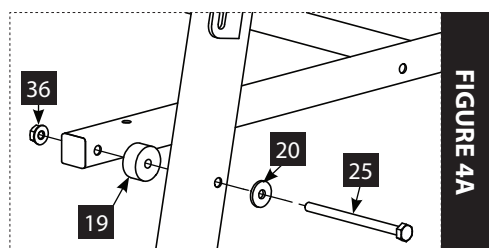

FIGURE 4A
4. Next assemble the seat support (13) to the armrests (10 & 11) as shown in **FIGURE 4**. The order of the hardware: 1/4 -20 X 3-3/4 IN bolts (25), yellow plastic washers (20), plastic spacers (19) and 1/4-20 nuts (36) is imperative for proper assembly and function, **SEE FIGURE 4A**.